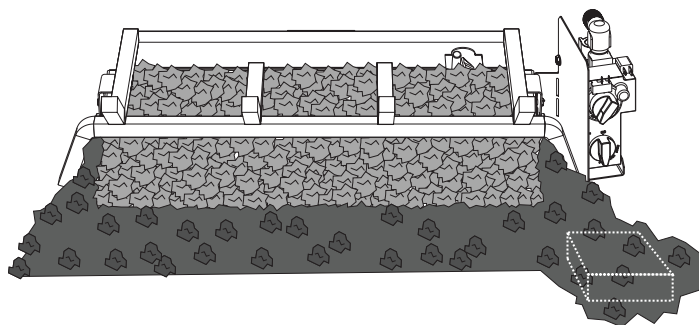

Figure 9
6. Place remote receiver in the front right corner of firebox and cover with lava rock as shown in **Figure 9**.